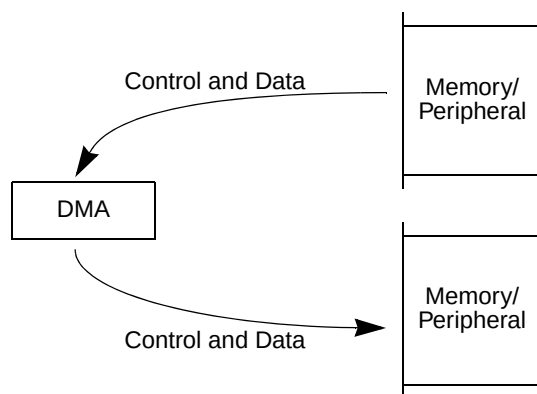

**Figure 16-3. Dual-Address Transfer**
- **Dual-address transfers**—A dual-address transfer consists of a read followed by a write and is initiated by an internal request using the START bit or by asserting DREQ. Two types of transfer can occur: a read from a source device or a write to a destination device. See Figure 16-3 for more information.